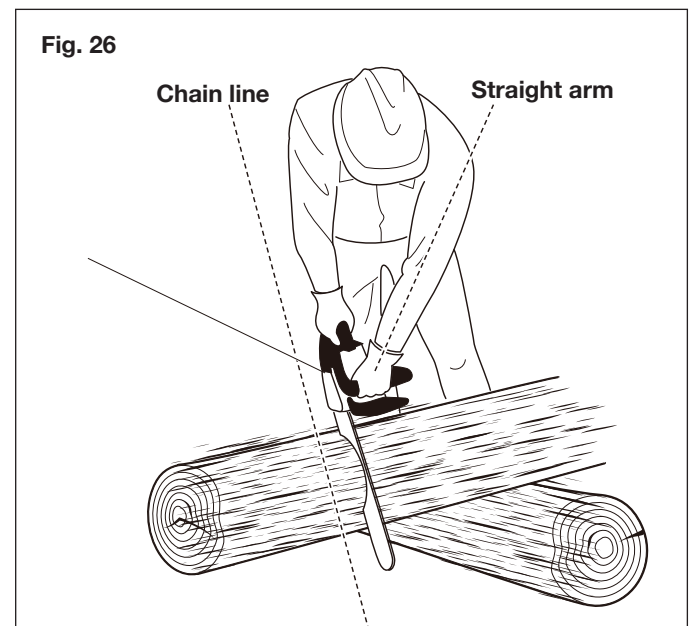

Fig. 26
- Keep your left arm and elbow locked in a “straight arm” position to withstand any kickback force (Fig. 26).
- Take the proper stance in front of the wood with the saw turned off (Fig. 26).